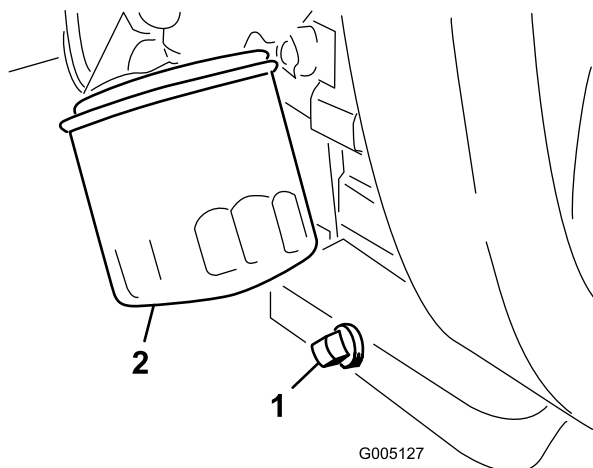

Figure 42
1. Remove the drain plug (Figure 42) and let the oil flow into a drain pan. When the oil stops, install the drain plug.
2. Remove the oil filter (Figure 42).